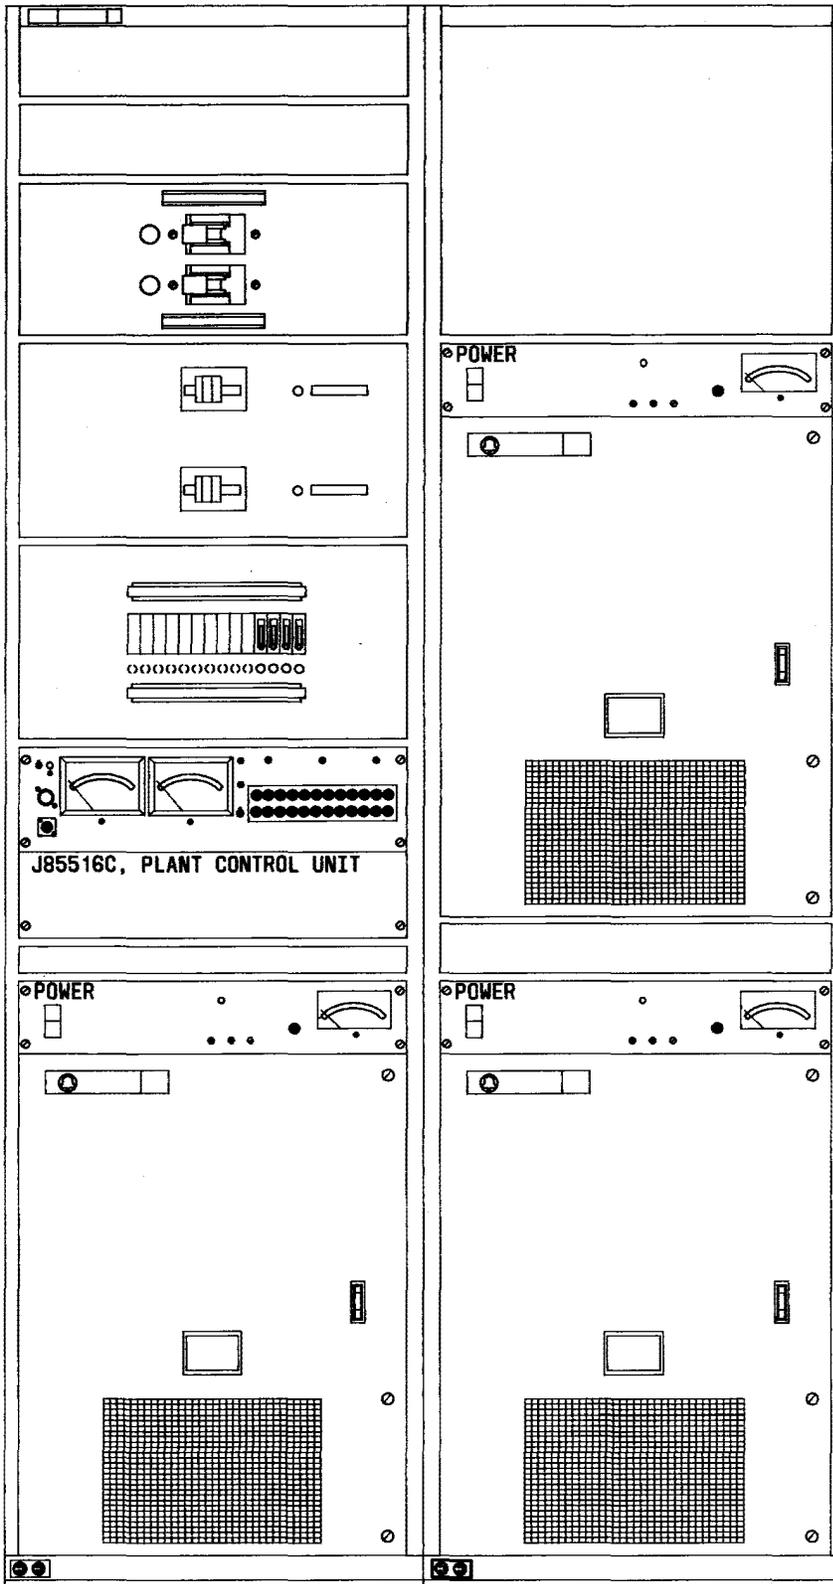
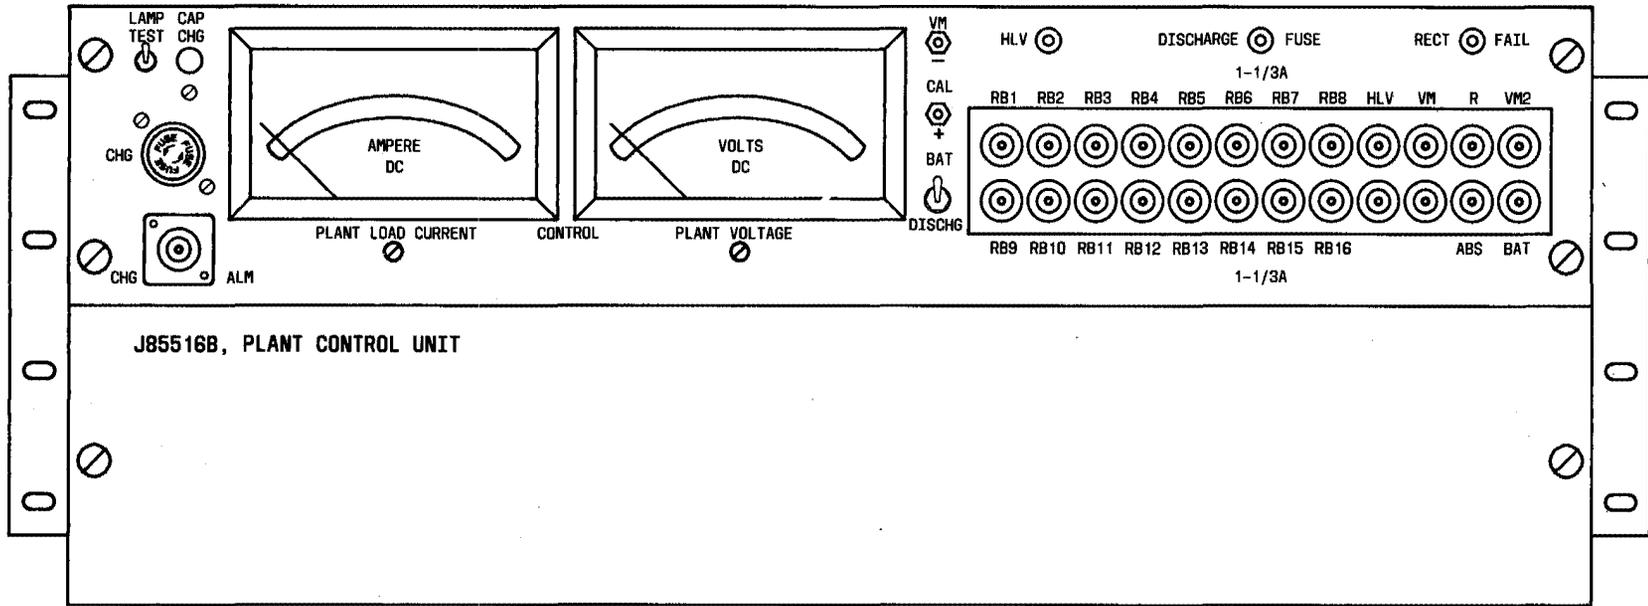

Fig. 1—151C Power Plant (J86917)
Fig. 2—J85516B, Plant Control Unit
**1.10** For power plant capacities greater than 100 amperes, additional rectifiers and supplementary bays can be provided. A 200 ampere, 151C power plant, is shown in Fig. 1. The third rectifier provides protection in case one of the other rectifiers fail. A full capacity plant consists of one J86917A originating bay and four J86917B supplementary bays. The J86917A originating bay is equipped with either the J85516B or the J85516C plant control unit, one rectifier, and the necessary discharge circuit breaker panels. Three of the J86917B supplementary bays are equipped with two rectifiers. The fourth J86917B supplementary bay is equipped with only one rectifier for a total of eight rectifiers.
**2.02** The J85516( ) plant control unit mounts in the J86917A originating bay between the rectifier and the circuit breaker panels (Fig. 1). On the front panel of the control unit are the plant ammeter, the plant voltmeter, the alarm indicator LEDs, and a control fuse panel using 70-type fuses (Fig. 2 or 3). Table B gives a complete list of controls and indicators on the J85516( ) plant control unit. Located inside the control unit are the plant voltage monitor and plant alarm circuits mounted on a printed wiring board (WC1 or WC2 circuit pack). This board plugs into a printed wiring motherboard which provides connections for rectifier controls and plant alarms. For a functional description of the J85516B plant control unit, as used in the 151C power plant, see paragraph 3.02.
**2.03** The J87437A, 100-ampere rectifier mounts in a standard 25-inch wide equipment bay (Fig. 1). The J87437A rectifier is designed to be serviced and maintained exclusively from the front.